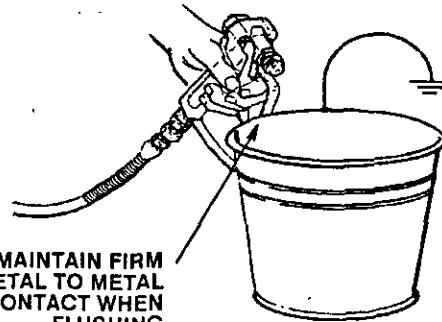

Fig 9-1
7. **To prime the pump,** hold a metal part of the gun firmly against into a metal waste container. See *Fig 9-1*. Squeeze the trigger and hold it open, turn the ON/OFF switch to ON, and slowly increase the pressure setting until the sprayer starts. Keep the gun triggered until all air is forced out of the system and the paint flows freely from the gun. Release the trigger and engage the gun safety latch.